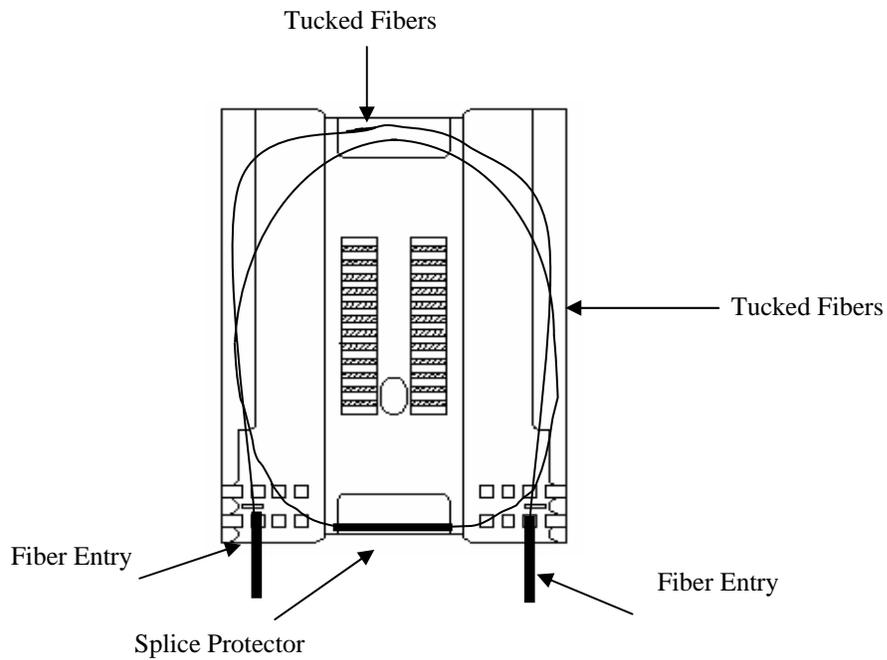

Figure 16 – Fiber Tucking
Step 27 - Gently grasp and flip splice(s) toward the fiber entry point of the tray (See Figure 16 below).